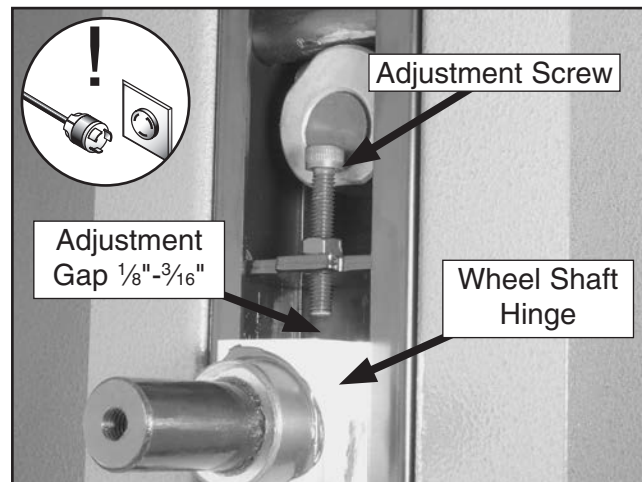

Figure 66. Tension lever adjustment components.
5. Turn the adjustment screw shown in **Figure 66** until the gap between the screw and the wheel shaft hinge is $\frac{1}{16}$ "– $\frac{3}{16}$ ".